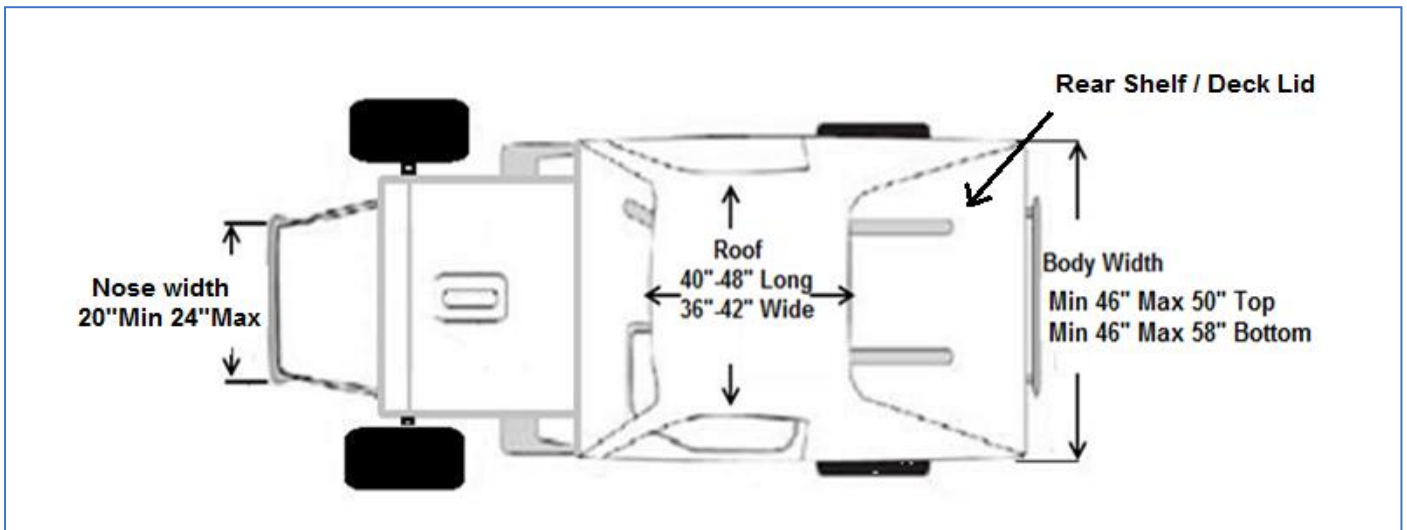

Figure 4
- **Deck Lid** means the horizontal flat panel behind the rear hoop that covers the differential and fuel tank. (Figure 4)
**9.1** Roof panel length must be between 40 inches min to 48 inches max. Roof panel width must be 36 inches min to 42 inches max. (*Figure 4*)